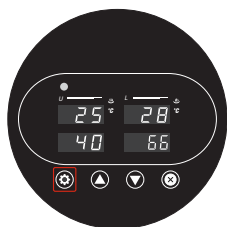

Fig. 1
1. Press Set **10** button on the control panel (Fig. 1) to go to the temperature setting mode for the top heat platen.